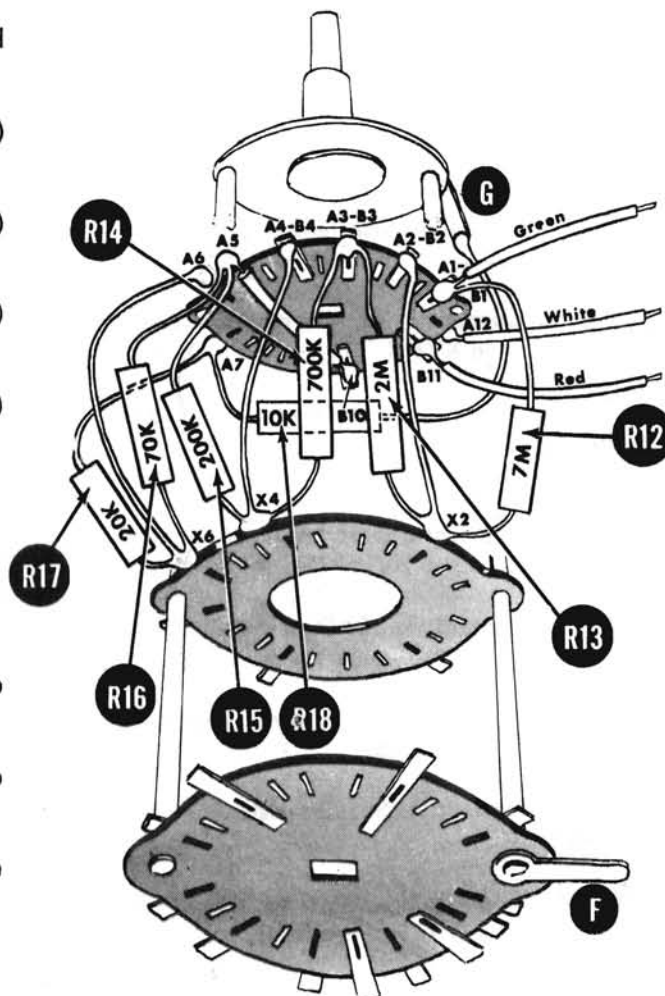
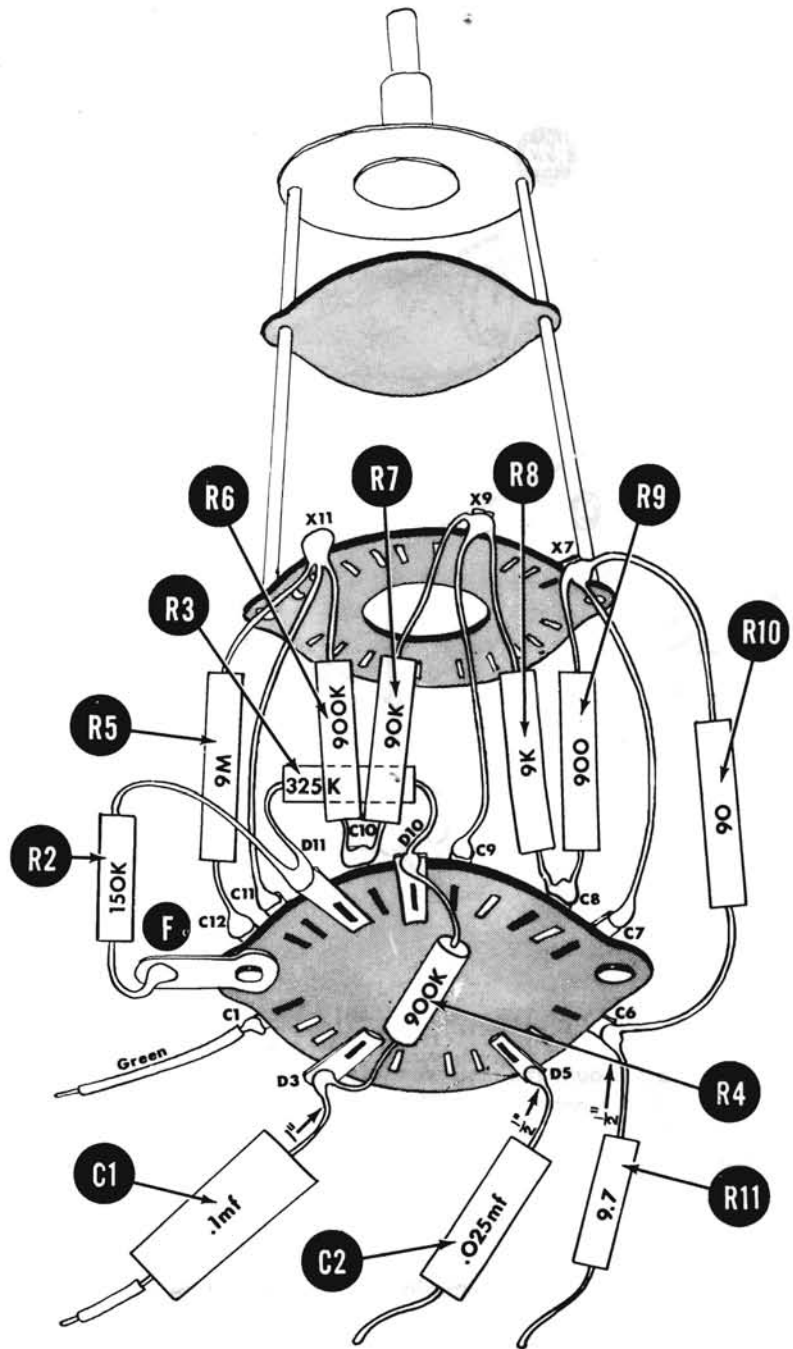

Fig. 4
Fig. 5
IMPORTANT: Before prewiring S2, see Fig. 4 and note the position of lug "F" on the rear wafer in relation to how the switch is being viewed in the drawing. This should enable you to correctly identify the contacts on the actual switch that correspond to the contacts shown in Fig. 4.
- (✓) Fig. 4. Connect a length of hook-up wire from A5 (C) to B10 (S). The A side of the wafer is closest to the detent mechanism.
- (✓) Fig. 4. Connect a length of bare wire from A6 (S) to X6 (C). The X designation will be used for the switch wafer containing the dummy lugs.
- (✓) Fig. 4. Connect a length of bare wire from A4-B4 (S) to X4 (C). When the double designation A4-B4 is used, it means the two switch lugs are electrically connected together by the rivet holding them to the wafer.
- (✓) Fig. 4. Connect a length of bare wire from A2-B2 (S) to X2 (C).
- (✓) Fig. 4. Connect the 10 K Ω resistor R18 from ground lug "G" (S) to A7 (C).
- (✓) Fig. 4. Connect the 20 K Ω resistor R17 from A7 (S) to X6 (C).
- (✓) Fig. 4. Connect the 70 K Ω resistor R16 from X6 (S) to A5 (C).
- (✓) Fig. 4. Connect the 200 K Ω resistor R15 from A5 (S) to X4 (C).
- (✓) Fig. 4. Connect the 700 K Ω resistor R14 from X4 (S) to A3-B3 (C).
- (✓) Fig. 4. Connect the 2 M Ω resistor R13 from A3-B3 (S) to X2 (C).
- (✓) Fig. 4. Connect the 7 M Ω resistor R12 from X2 (S) to A1-B1 (C).
- (✓) Fig. 4. Connect a 5 in. length of green hook-up wire to A1-B1 (S).
- (✓) Fig. 4. Connect a 4 in. length of white hook-up wire to A12 (S).
- (✓) Fig. 4. Connect a 6 in. length of red hook-up wire to B11 (S).
() Fig. 5. Note that in Fig. 5 the switch is being viewed from the side that faced away from the observer in Fig. 4. Again note the position of lug "F" on the rear wafer in relation to how the switch is being viewed in the drawing. This should enable you to correctly identify the contacts on the actual switch that correspond to the contacts shown in Fig. 5.
- () Fig. 5. Connect a length of bare wire from C11 (S) to X11 (C).
- () Fig. 5. Connect a length of bare wire from C9 (S) to X9 (C).
- () Fig. 5. Connect a length of bare wire from C7 (S) to X7 (C).
- () Fig. 5. Connect the 9MΩ resistor R5 from C12 (S) to X11 (C).
- () Fig. 5. Connect the 900 KΩ (1/2 watt) resistor R6 from X11 (S) to C10 (C).
- () Fig. 5. Connect the 90 KΩ resistor R7 from C10 (S) to X9 (C).
- () Fig. 5. Connect the 9 KΩ resistor R8 from X9 (S) to C8 (C).
- () Fig. 5. Connect the 900 Ω resistor R9 from C8 (S) to X7 (C).
- () Fig. 5. Connect the 90 Ω resistor R10 from X7 (S) to C6 (C).
- () Fig. 5. Connect the 9.7 Ω resistor R11 to C6 (S).
- () Fig. 5. Connect the 150 KΩ resistor R2 from gnd lug F (S) to D11 (C).
- () Fig. 5. Connect the 325 KΩ resistor R3 from D11 (S) to D10 (C).
- () Fig. 5. Connect the 900 KΩ (1 watt) resistor R4 from D10 (S) to D3 (C).
- () Fig. 5. Connect the .1 mf capacitor C1 to D3 (S).